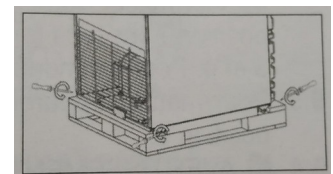

Fig 2
3.1.a Remove the exterior and interior packing. In order to remove it from the pallet, use a screwdriver and unscrew and four screws, as shown in Fig 2.